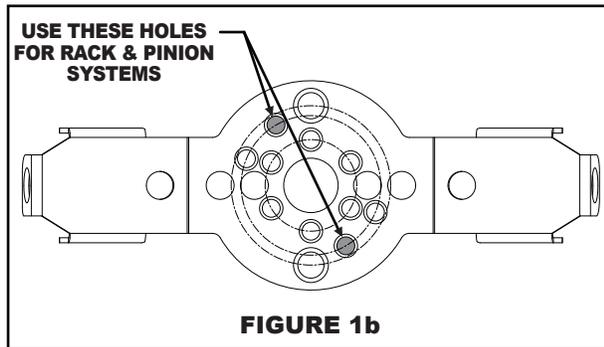

FIGURE 1b
**Step 2.** Using the guide provided, mark the plastic bezel and drill two 3/16" diameter holes (see Figure 1b). NOTE: IF YOUR BEZEL ALREADY HAS RECESSED HOLES AT THESE LOCATIONS, THEN NO DRILLING OF THE BEZEL IS NECESSARY.